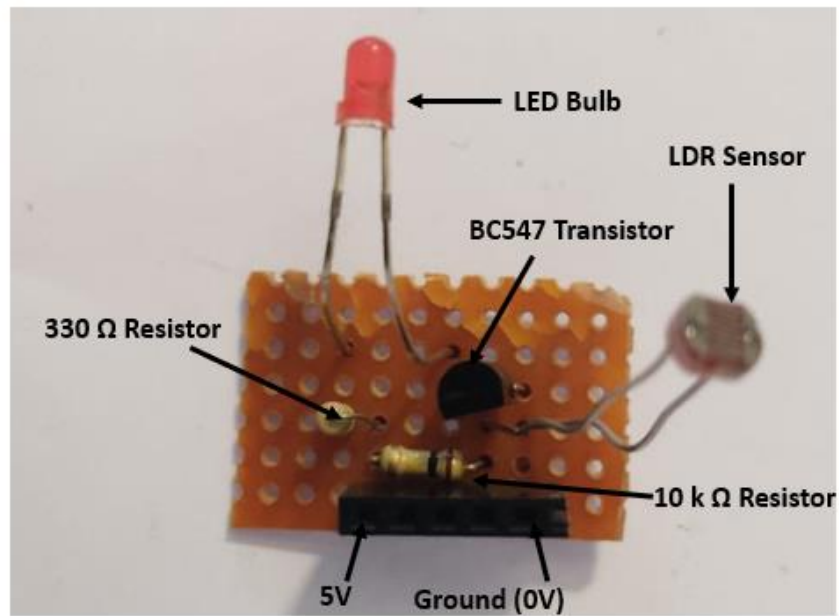

FIGURE 3. 8 LDR SENSOR CIRCUIT
- ✓ **5V pin** connect to the **pin 22(PC0)** of Atmega32 Microcontroller (*figure 3. 4*).